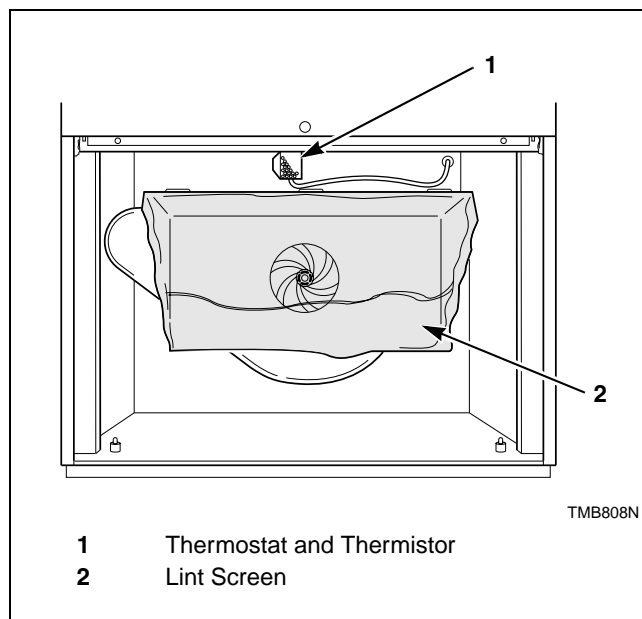

Figure 11
- e. Carefully wipe any accumulated lint off of the cabinet high limit thermostat and thermistor. Failure to do so will allow a buildup of lint in this area to act as an insulator, causing the tumbler to overheat. Refer to *Figure 11*.